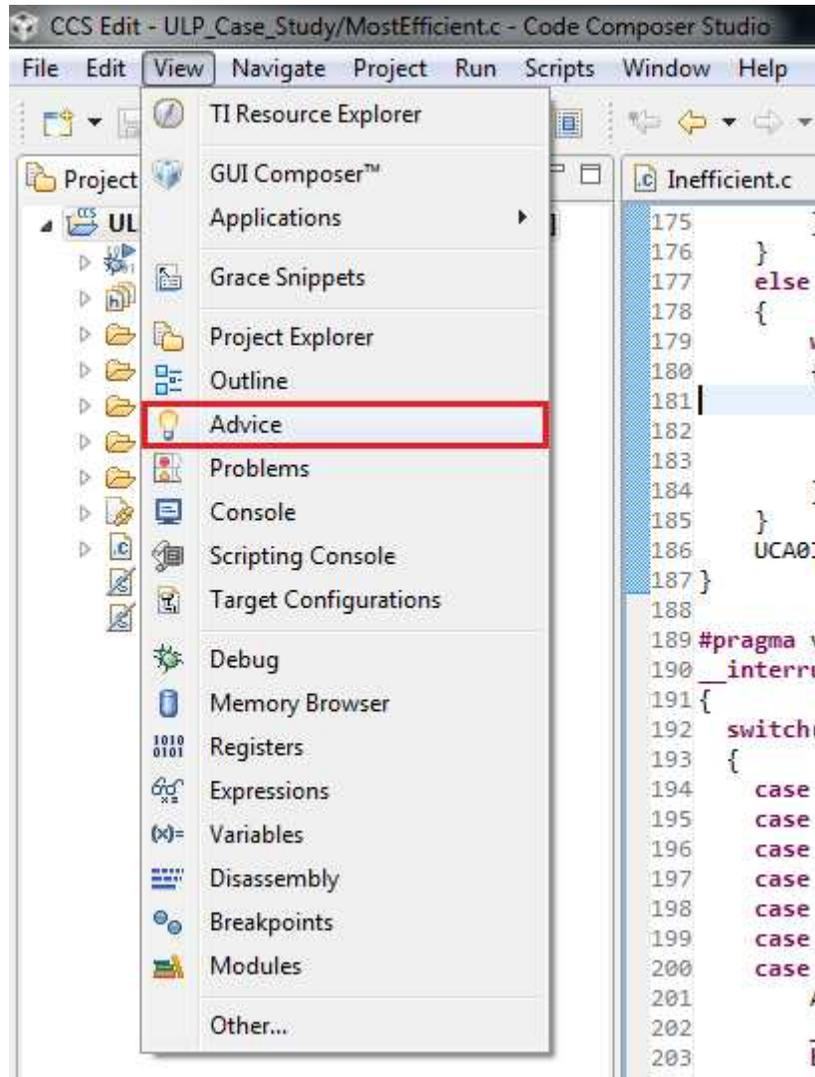

Figure 6. Show the Advice Window
2. The *Advice* window shows suggestions from the ULP Advisor under the Power (ULP) Advice heading. If you do not see the *Advice* window, click *View* → *Advice* (see Figure 6). Figure 7 shows the comments for *Inefficient.c*.